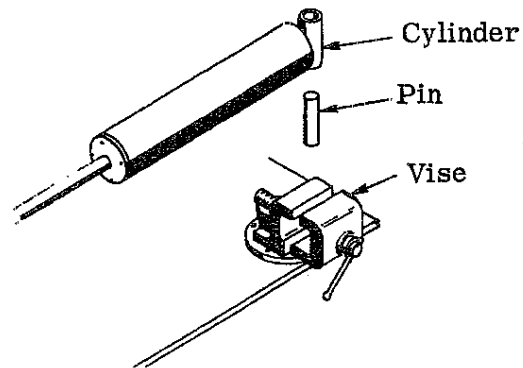
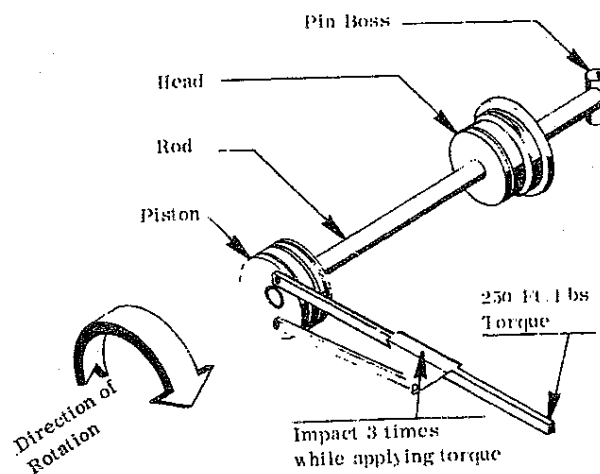

Figure E-1. Securing Cylinder
Figure E-6. Piston/Rod Assembly
3. Place the cylinder on a flat surface near a vise. Slip a pin through the pin boss and clamp the pin in a vise (Figure E-1)
5. Secure the rod pin boss in the same manner as the base pin boss (Figure E-1)
13. Secure the rod as shown in Figure E-1 and screw the piston onto the rod by hand. You should be able to get the piston almost all of the way onto the rod before using the spanner wrench.
14. Torque the piston onto the rod at 250 ft. lbs. of torque. Impact the wrench three times with a heavy plastic mallet while maintaining the torque (Figure E-6).
18. Secure the cylinder (Figure E-1) and torque the head in the same manner as the piston (Step 14 and Figure E-6).